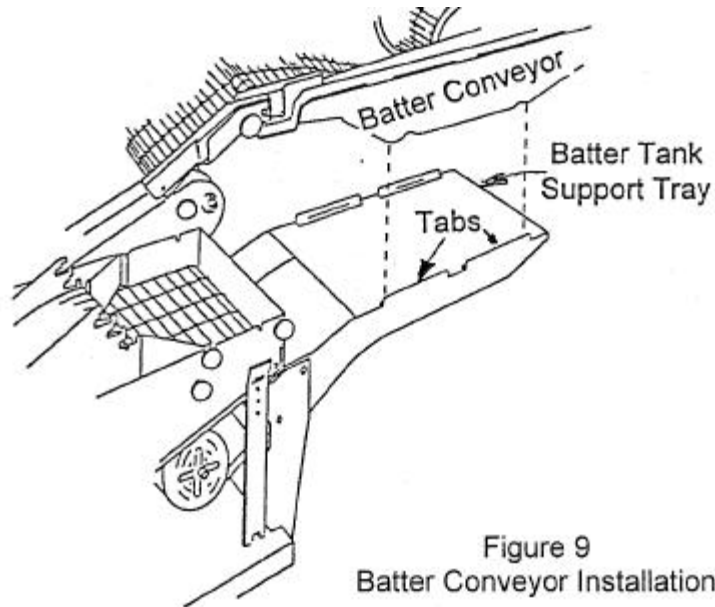

Figure 9
6.2.7 Batter Conveyor (See Figure 9)